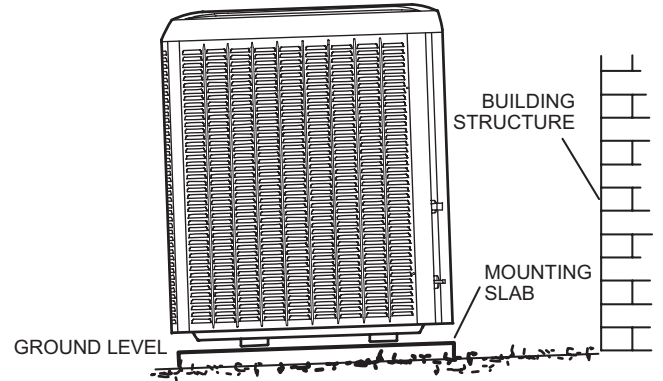

FIGURE 4
- When possible, do not install the unit directly outside a window. Glass has a very high level of sound transmission. For proper placement of unit in relation to a window see the provided illustration in figure 4.
The slab should have a slope tolerance as described in figure 4.